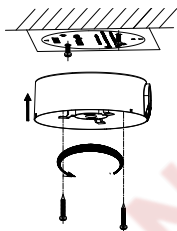

Figure 2-40 Fix the Junction Box
4. Attach the junction box to the ceiling and secure it by aligning the holes with two screws and rotating the junction box according to the direction as shown in Figure 2-40. Make sure the front arrows